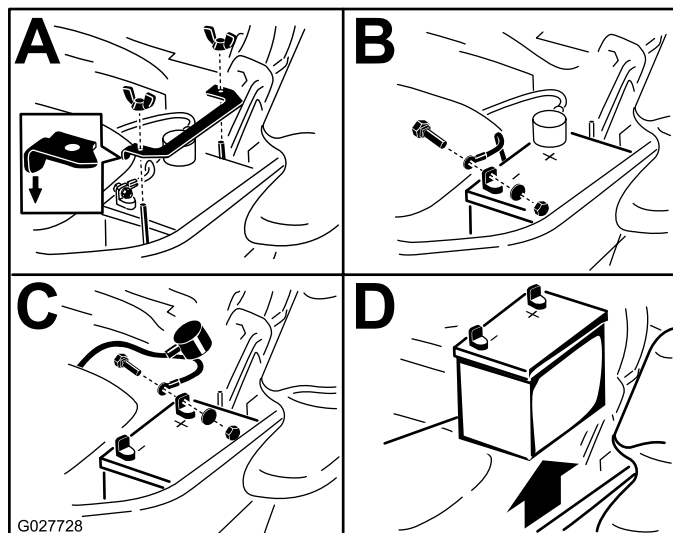

Figure 56
**Note:** Position battery in the tray with the terminal posts opposite from the hydraulic tank (Figure 56).